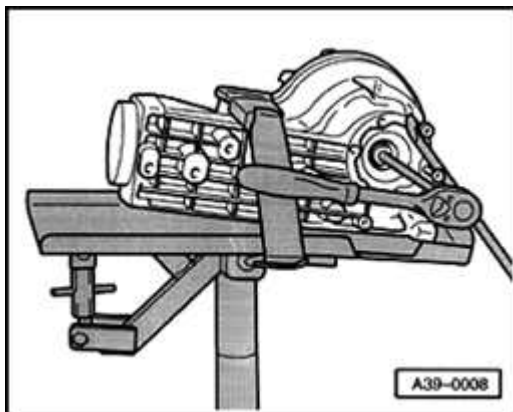

**Fig. 65: Removing/Installing Drive Flange**
- Removing and installing. See **Fig. 65**
- Removing and installing. See Fig. 65